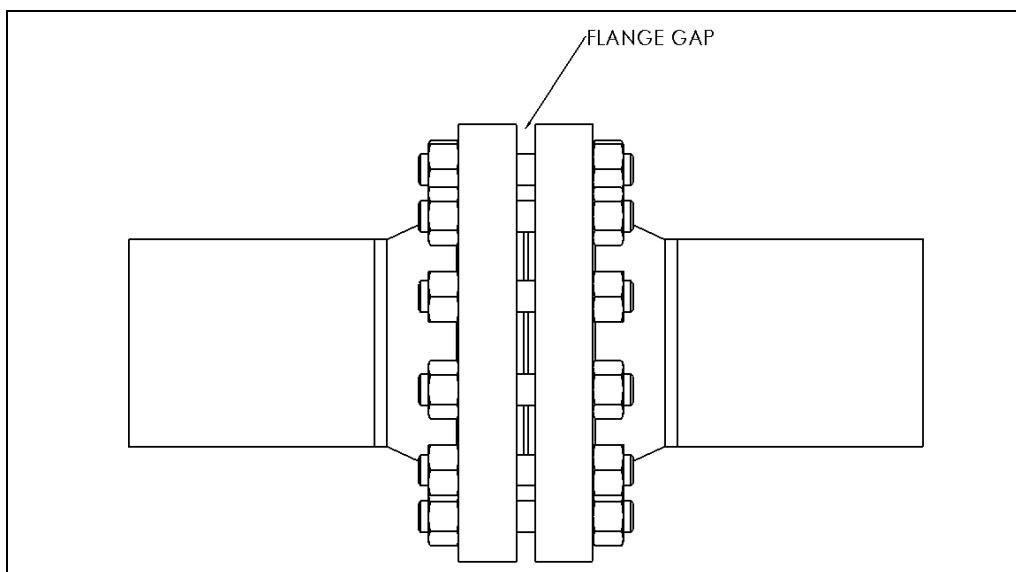

Figure 2
4. Make sure the gap between the flanges is open to the flange stud bolts (shown in Figure 2). This will ensure injected sealant can reach the stud bolts. For flat face or insulating flanges, contact PLIDCO.